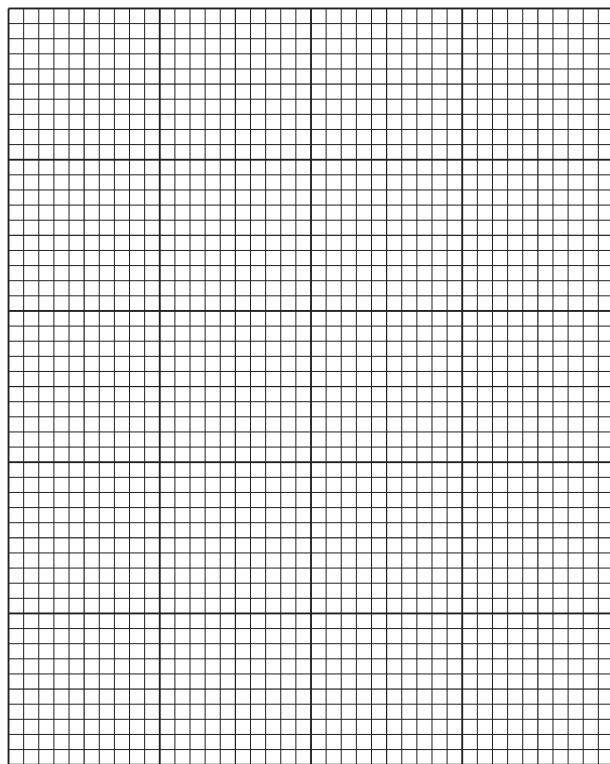

Fig. 1.7
- (i) Plot a graph of the data shown in Table 1.2 on the grid in Fig. 1.7.